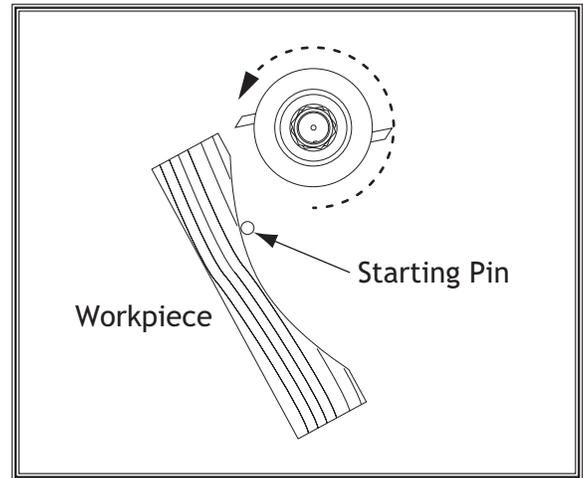

Figure 9. Workpiece in starting position (Guard removed for clarity).
9. Place workpiece in starting position using starting pin for support (see **Figure 9**).